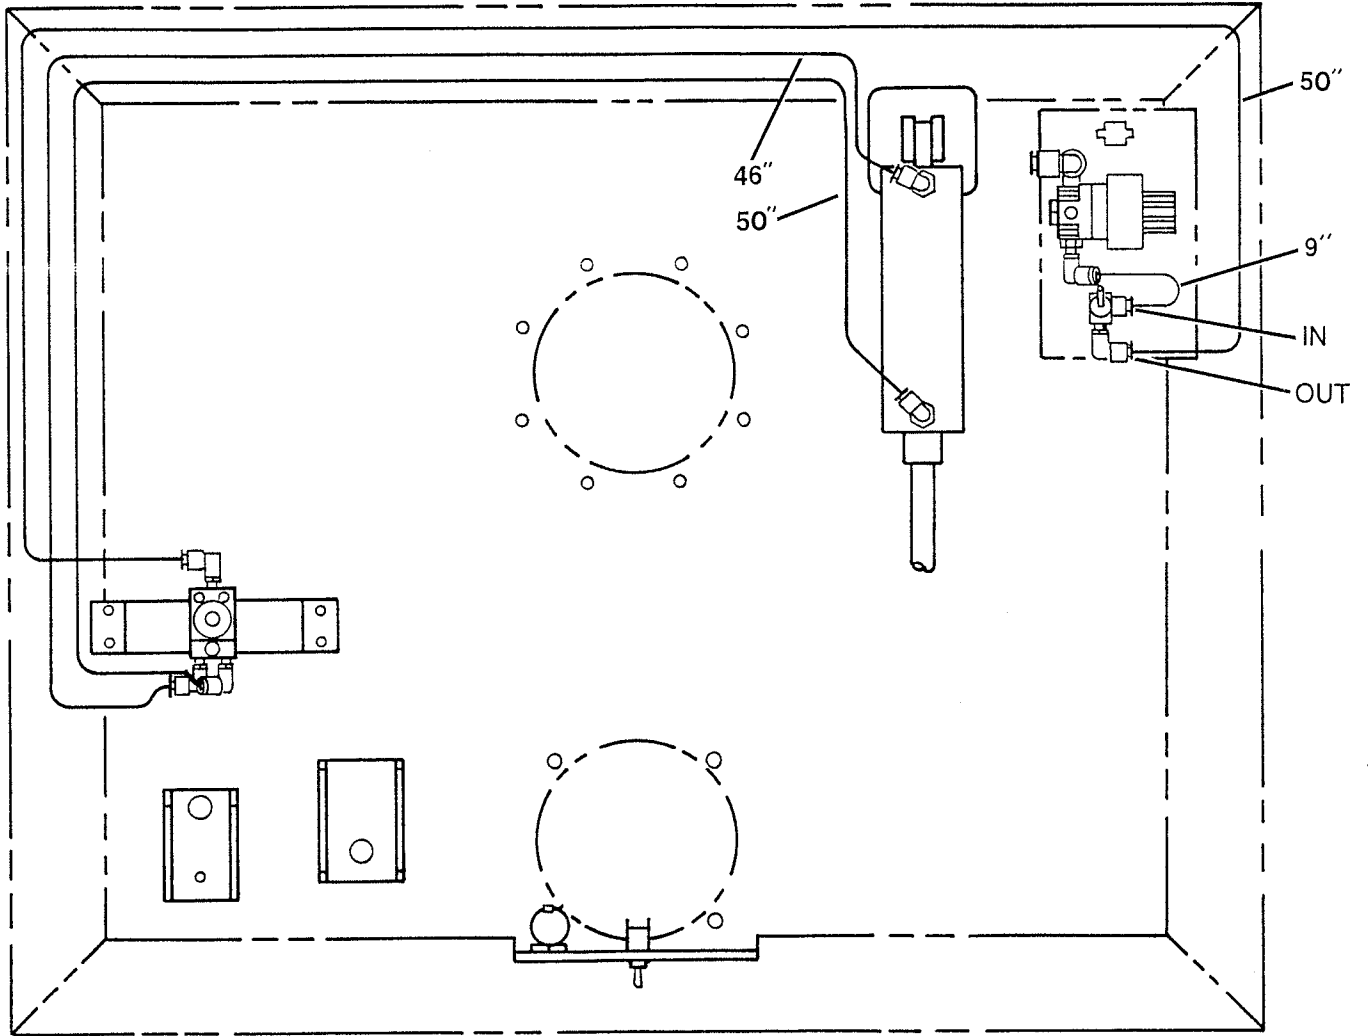

Figure 2-10. Air Lines.
- (1) Cut air line (74) to desired length.
- (2) Route air line inside roof turret mounting plate as indicated in Figure 2-10.
- (3) Connect air line to adapter fittings by depressing red collar on adapter fittings and inserting air line into adapter fitting. Release red collar.
- (4) Bundle air lines with cable ties as required.
- (5) Install false ceiling (paragraph 2-16).